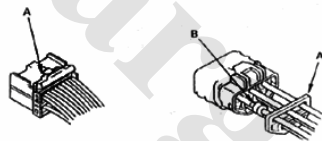

Fig. 4-5
1. Check for tightness of retainer (A) and rubber seal (B). (Fig. 4-5)